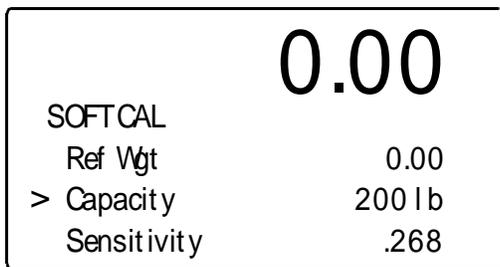

FIG. 2-21 SOFT CALIBRATION MENU/ENTERING LOAD SENSOR CAPACITY
- Step 5. Press on the “-” button until the cursor is in front of “Capacity”. (See Fig. 2-21)